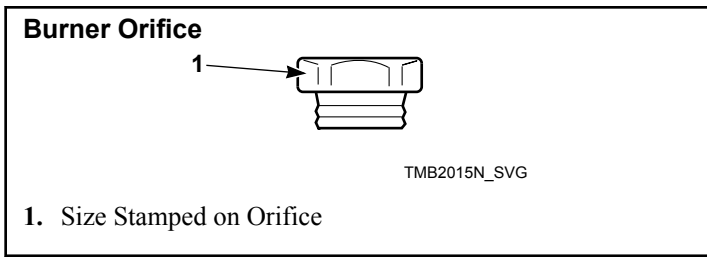

Figure 20
3. Install the new, correct burner orifice(s). Refer to *Figure 20* and *Table 1*. Torque each to 9 – 10 Nm.
4. Reinstall orifice holder assembly to gas valve, making certain burner orifice(s) are in line with burner tube opening. Refer to *Figure 20* .